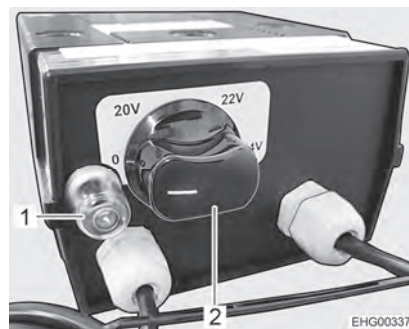

Fig. 114 Regulator for electrical floor warming unit
- Turn the control knob (Fig. 114,2) to the required heating level.
- Turn control knob (Fig. 114,2) to "0" position.
After switching off, the floor remains warm for a while, due to residual heat. If the regulator is overloaded, the overload protection is actuated. The pin (Fig. 114,1) jumps out.
- Press the pin (Fig. 114,1) on the overload protection when the regulator is cooled.